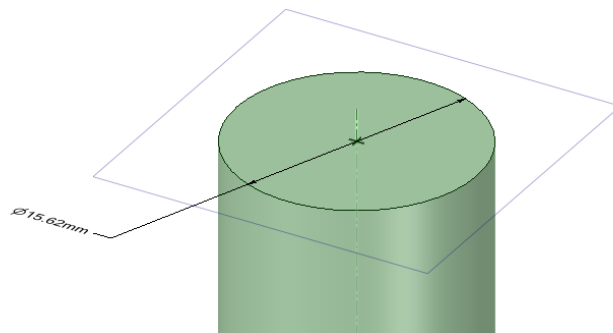

Fig. 1-16b Dimension
- Dimension: Click and edge or face to preview possible dimensions, as Fig. 1-16b.